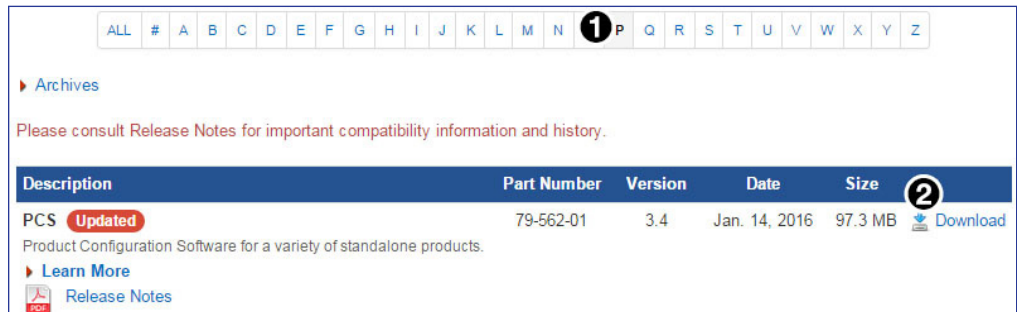

Figure 7. PCS on the Extron Website
3. Navigate to PCS (see figure 7, 1), and click **Download** (see figure 7, 2) on the right.